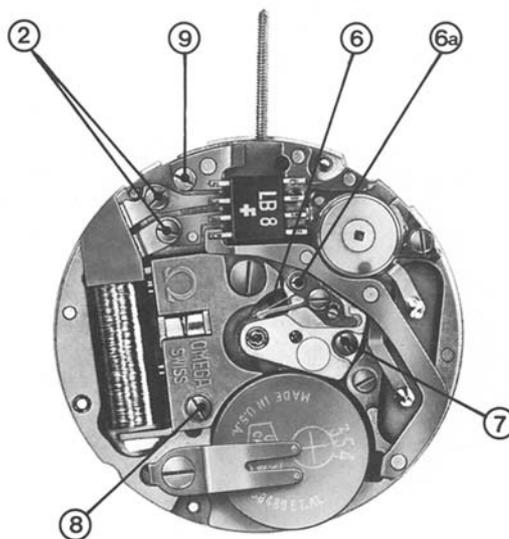

Fig. 2.3
3.26. Release retaining click No. 1310.9028 (point 6, fig. 2.3.) by slightly turning the click stud (6a).